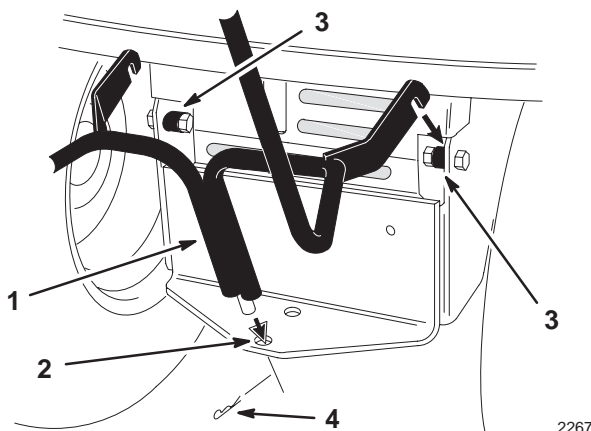

Figure 25
1. Slide the bottom of the quick-attach bracket down into the hole in the hitch and hook the notches onto the spacers located inside the tractor frame (Fig. 25).
- Slide the cotter pin through the hole at the bottom of the quick-attach bracket (Fig. 25).